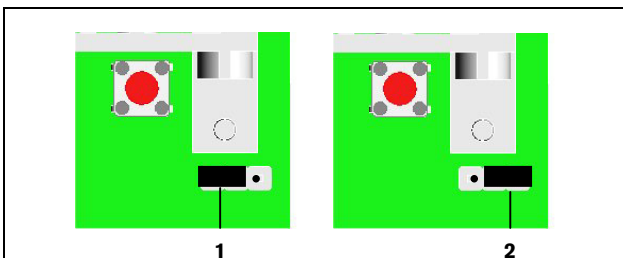

Figure 2.7 Positions button order jumper.
- 5 Set the button order jumper on position 1 (see Figure 2.7).